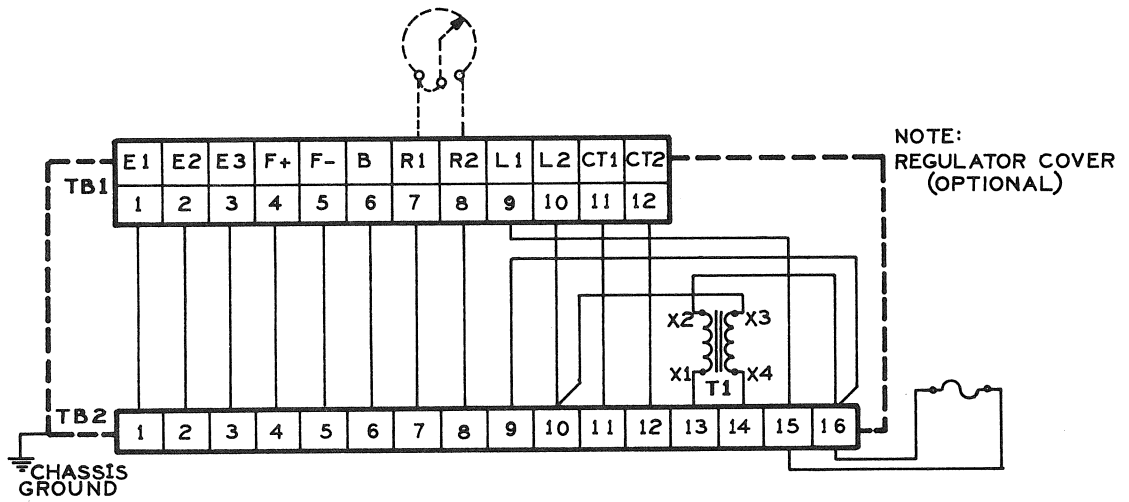

Figure 2-17 Interconnection, Commercial RFI Filter 514-00408-04
2.5.1 The circuits shown in figures 2-17 and 2-18 illustrate the two RFI filters available as options with the KCR 560 series voltage regulators. The RFI circuitry suppresses conducted RFI by conducting it to ground.